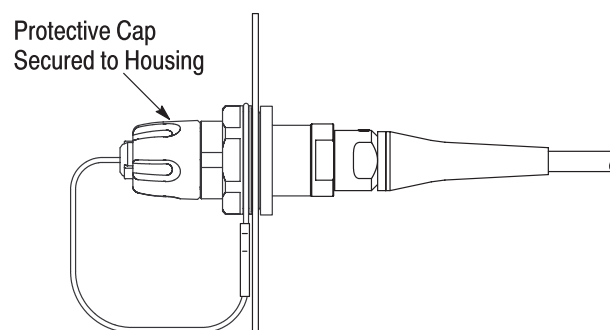

Figure 16
2. Install the connector through the back of the panel so that the O-ring on the shoulder of the D-hole housing is flat against the panel. See Figure 16, Detail A.
3. Thread the panel nut of the protective cap onto the D-hole housing. See Figure 16, Detail A. Tighten the panel nut to a torque of approximately 40 N-m. When the panel nut is secure, the O-ring should be compressed.
4. Thread the protective cap onto the housing, then hand-tighten the protective cap as shown in Figure 16, Detail B.